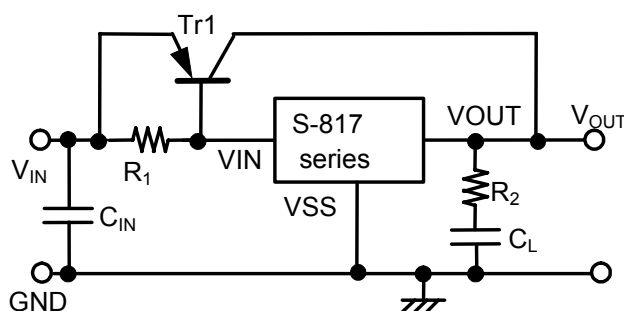

Figure 15
As shown in **Figure 15**, the output current can be boosted by externally attaching a PNP transistor. The base current of the PNP transistor is controlled so that output voltage (V_{OUT}) goes the voltage specified in the S-817 Series when base-emitter voltage (V_{BE}) necessary to turn on the PNP transistor is obtained between input voltage (V_{IN}) and S-817 Series power source pin (V_{IN}).
- To improve transient response characteristics of the output current boosting circuit shown in **Figure 15**, check that no problem occurs due to output fluctuation at powering on or due to power or load fluctuation under normal operating conditions.
The following graphs show the examples of input-output voltage characteristics ($T_a=25^\circ\text{C}$, typ.) in the output current boosting circuit as seen in Figure 15: